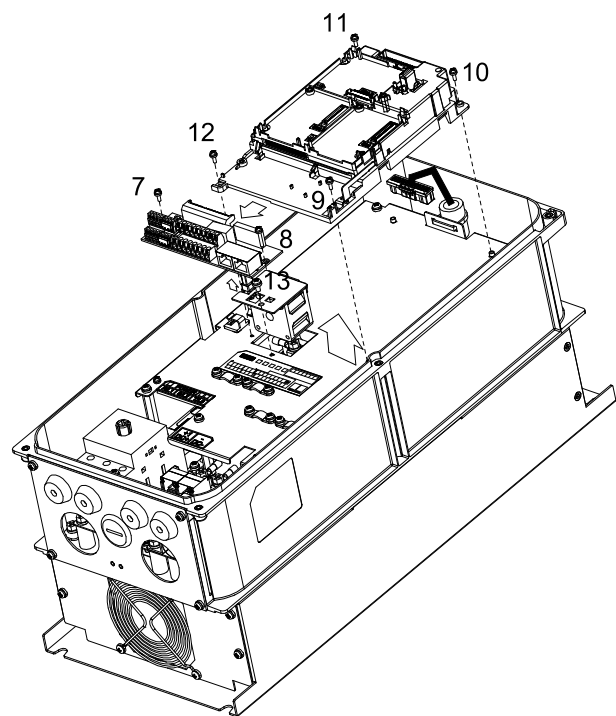

Figure 7-64
3. Loosen the screws 7–13 then remove the fan kit. (Refer to Figure 7-64)